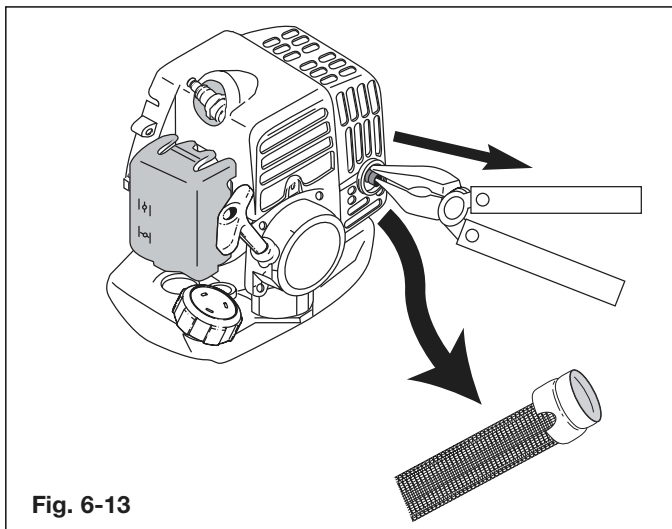

Fig. 6-13
2. Use a needlenose pliers to grasp the collar of the spark arrestor and pull it out of the muffler (Fig. 6-13).